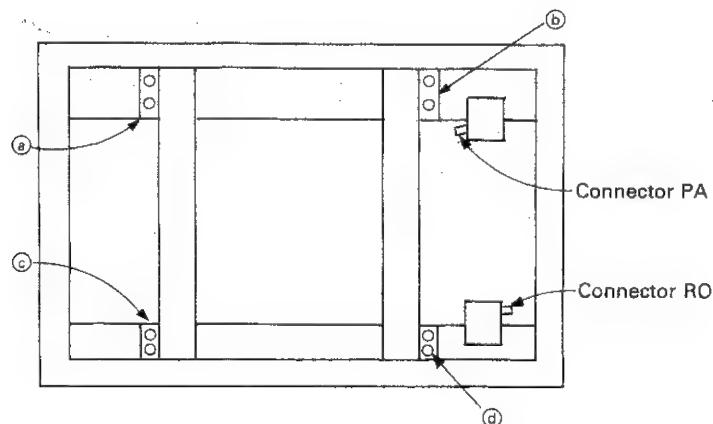

Figure 33 Rotational Mechanism Unit with Rear Cover Removed
- (4) Disconnect the relay connector which is used to connect the plunger leads coming from the rotational mechanism units (right and left) to the main PWB, and then the connectors RE and FF which are used to connect the motor leads to the main PWB. And remove the leads from the lead holders and leave them near the right and/or rotational mechanism unit.
- (5) Remove eight screws, two each at the places Ⓐ, Ⓑ, Ⓒ and Ⓓ, shown in Fig. 33.
- (6) Remove the screws which have temporarily fixed the writing sheet board, and detach the writing sheet board from the main body. At the time, be careful not to allow the leads of the rotational mechanism unit to be entwined between the main body and writing sheet board.
- (5) Referring to Fig. 33 secure the screws at the places ①, ②, ③ and ④.
- (6) Connect the plunger lead (coming from the rotational mechanism unit) to the relay connector and the leads (coming from the motor) to the connectors RE and FF at the main PWB. Arrange the leads using the lead holders.
- (7) Remove the two screws which have temporarily fixed the writing sheet board and attach the writing sheet to the board according to the instruction in "Attachment of Writing Sheet".
- (8) Attach the rear cover, printer, paper guide and paper tray in this order to the main body. Thus, replacement of the rotational mechanism unit is completed.